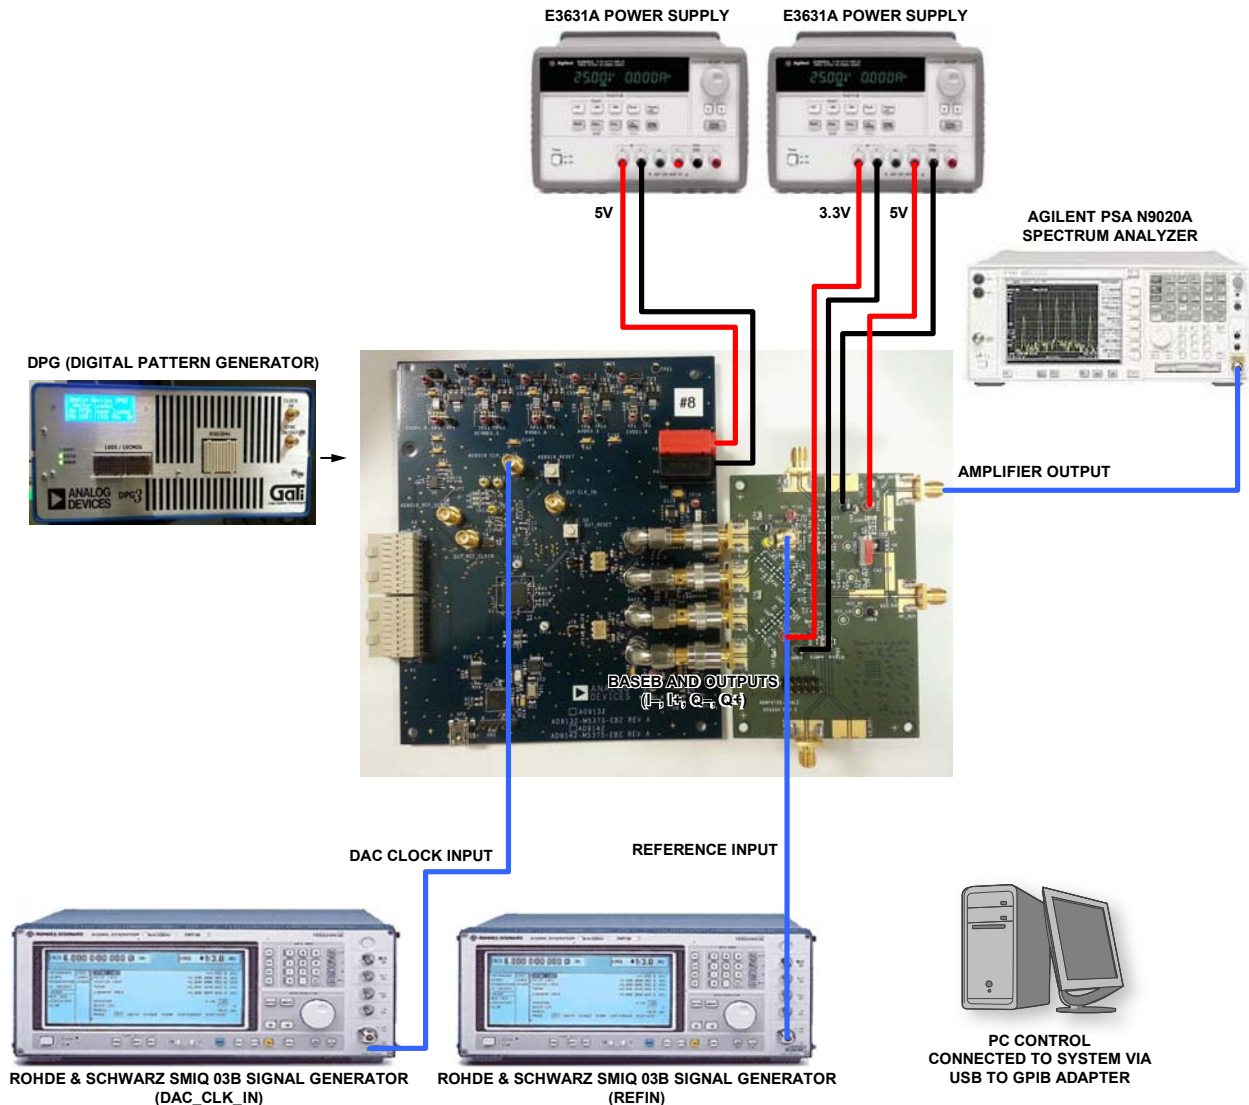

Figure 18. Test Setup
1. Connect the set up and measurement system as shown in Figure 18.